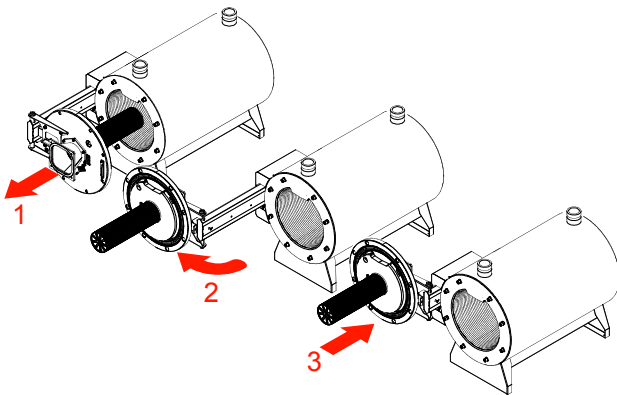

Figure 26: Burner Door Opening
- e. This unit is equipped with a sliding mechanism shown in Figure 26. Position (1) burner assembly slides out of the combustion chamber, (2) rotate away from the combustion chamber and (3) sliding back to allow full access to the combustion chamber for inspection and service.